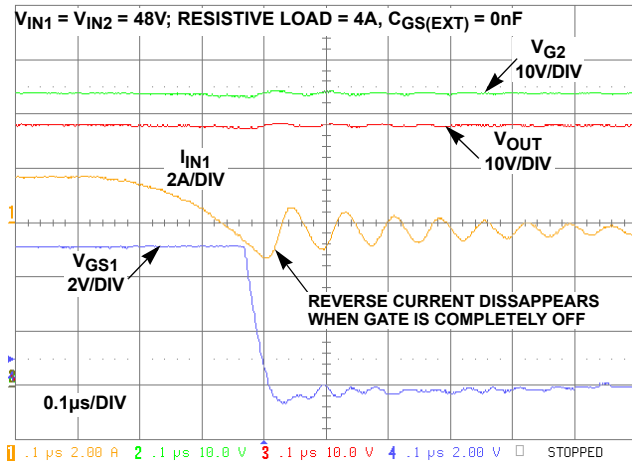

FIGURE 21. FAST SPEED TURN-OFF (MOSFET WITH QTOT = 8.4nC)
tDELAY(HS) is the High Speed Comparator internal worst-case time delay. The setup in Figure 17 can be used to perform the Input dead-short test; a pulse generator is connected between Gate-Source of QSHORT1 (use pulse mode single shot, set the frequency to <10Hz and pulse width of approximately 10ms, trISE = 1µs). Follow steps 1 through 5 in the two feed parallel operation section. Make sure that both feeds operate in parallel current sharing mode. Proceed with the short test by applying the single pulse to the gate of QSHORT1. Once turned on, QSHORT1 shorts VIN1 causing it to fall quickly (in less than 10µs). Figures 21, 22 and 23 show the results for different combinations of CGS1 and load current. Make sure to connect the VIN1 shorting-MOSFET terminals as close as possible to the VIN-GND (J4 to J6) terminals on the EVAL board to minimize lead impedance and reduce parasitic ringing.